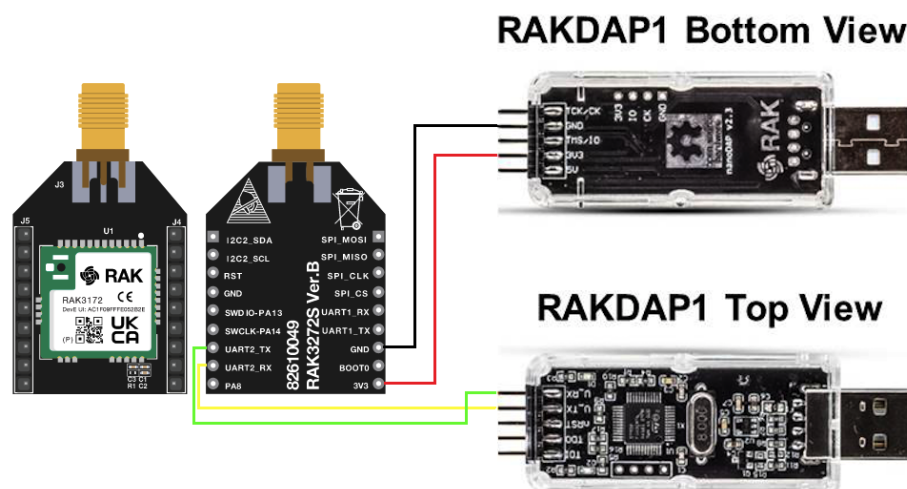

Figure 21: RAK3272S Breakout Board to USB-Serial Connection
1. Connect the RAK3272S to the serial port of a general-purpose computer (USB port) using a USB to UART TTL adapter like RAKDAP1 , as shown in **Figure 21**.